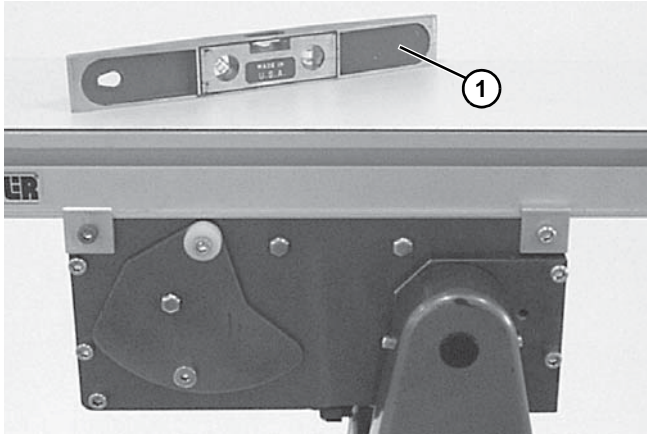

Figure 3
Conveyor **MUST** be mounted straight, flat and level within confines of conveyor. Use a level (**Figure 3, item 1**) for setup.